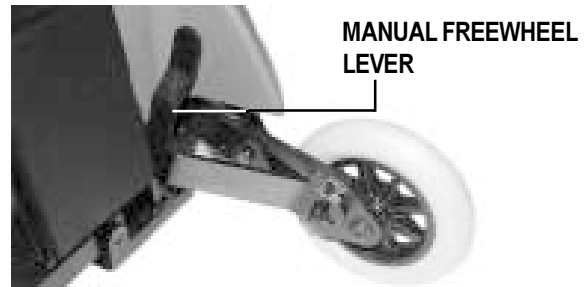

Figure 8. Manual Freewheel Lever (left side)
1. Locate the levers on the front of the power base. See figure 8.